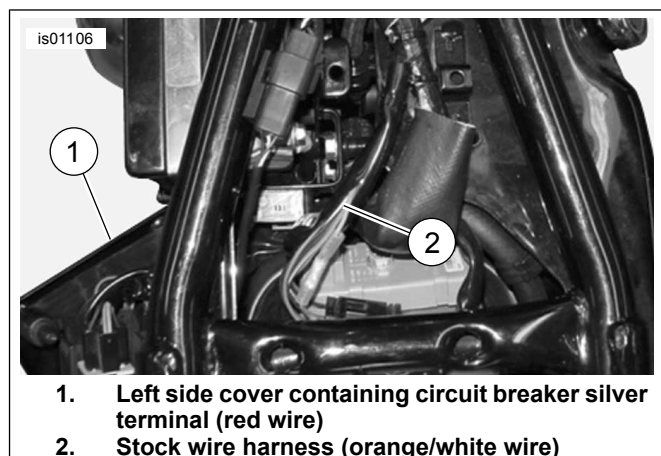

Figure 11. Power Connections (XL Models)
- See Figure 11. Carefully slice open an area of the main harness wrap inside the electrical side cover or under the seat at an accessible point, and cut an orange/white main harness power lead.